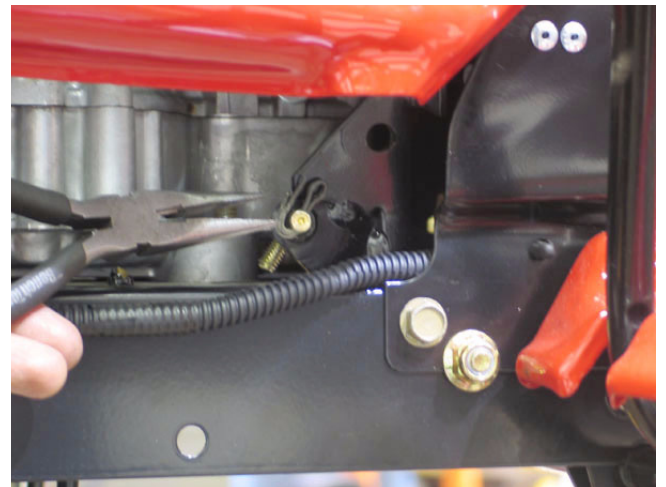

Figure 13.4
- 13.4. Secure the ferrule to the linkage using a new cotter pin, and test the operation of the linkage and related safety features before returning the tractor to service. See Figure 13.4.